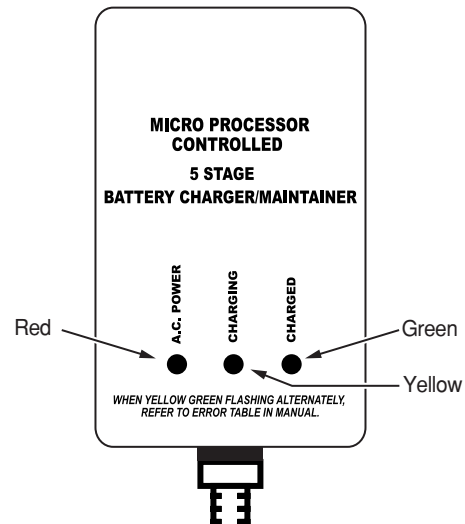

Figure 10 – FP1800DCC-01 LED Panel
4. With the charger properly connected and plugged in, the panel on the front of the charger will show one of the conditions illustrated in Figure 10.